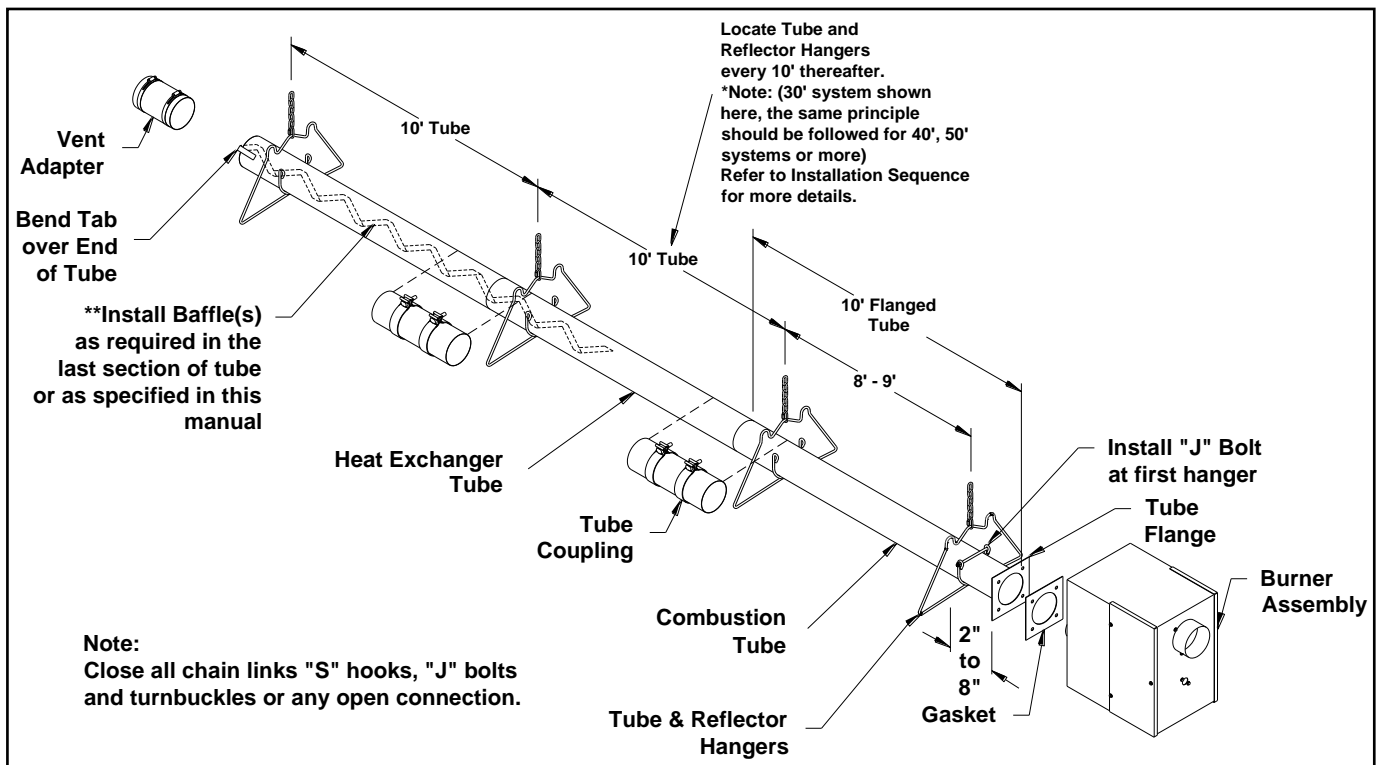

Figure 13: Overall view of Tubes and Reflector Hangers
- A general overall view of the tubes and reflector hangers are shown in Figure 13 below